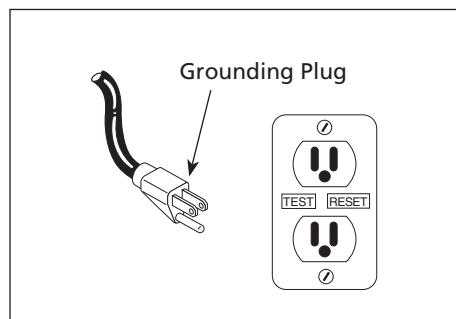

Figure 1
**Risk of electrical shock! This pump is supplied with a grounding conductor and grounding type attachment plug. A grounded receptacle in conformance with current NEC and local codes must be used (See Figure 1). Do not use model PC2, 115 V Transfer Pump in swimming pool areas.**